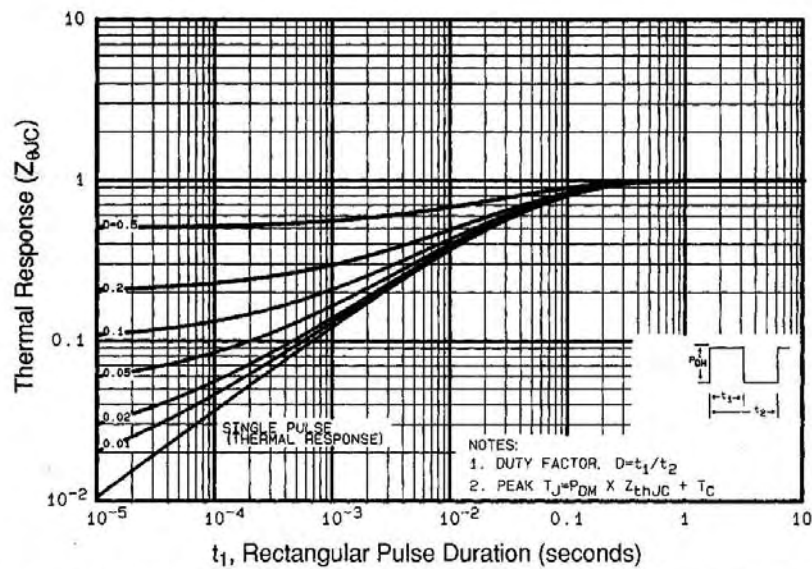

Fig 11. Maximum Effective Transient Thermal Impedance, Junction-to-Case
① Repetitive rating; pulse width limited by max. junction temperature (See Figure 11)
③ $I_{SD} \leq 28A, di/dt \leq 170A/\mu s, V_{DD} \leq V_{(BR)DSS}, T_J \leq 175^\circ\text{C}$
② $V_{DD}=25V$, starting $T_J=25^\circ\text{C}$, $L=191\mu H$